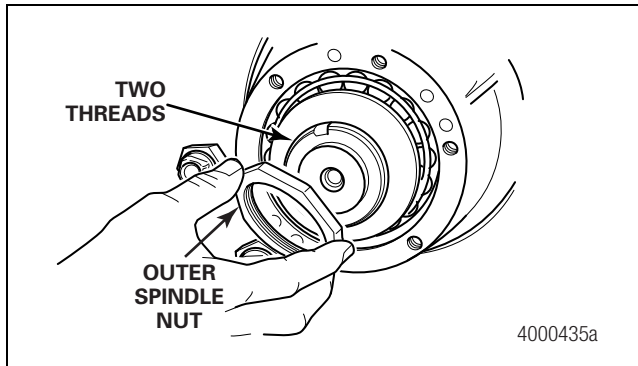

Figure 2.27
2. Use a Meritor drill jig. Correctly support the Meritor drill jig with at least two full spindle threads. If necessary, remove the trailer axle outer spindle nut to expose at least two full threads. Figure 2.27.